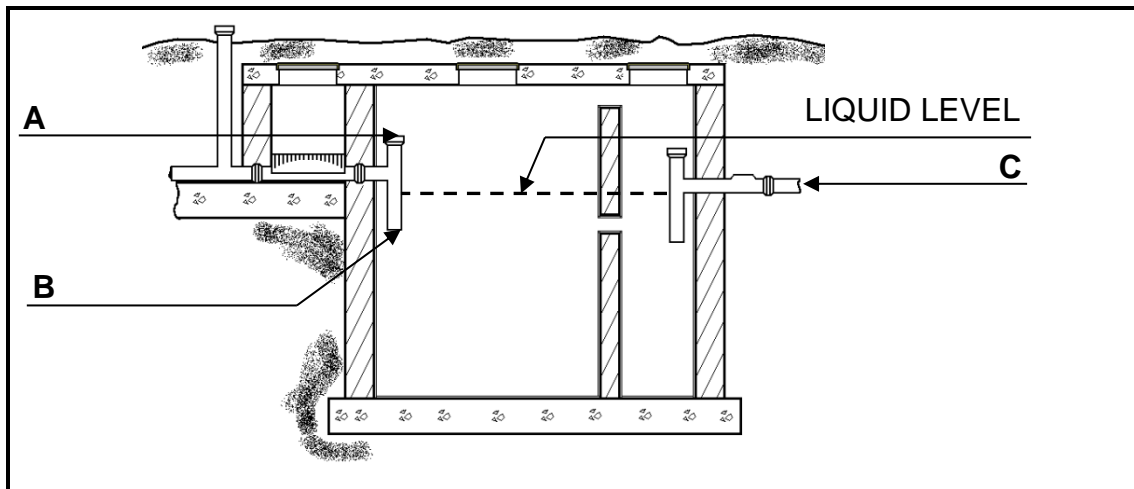

FIGURE 5.3
5.3 Answer the following questions with regard to the drainage structure in FIGURE 5.3.